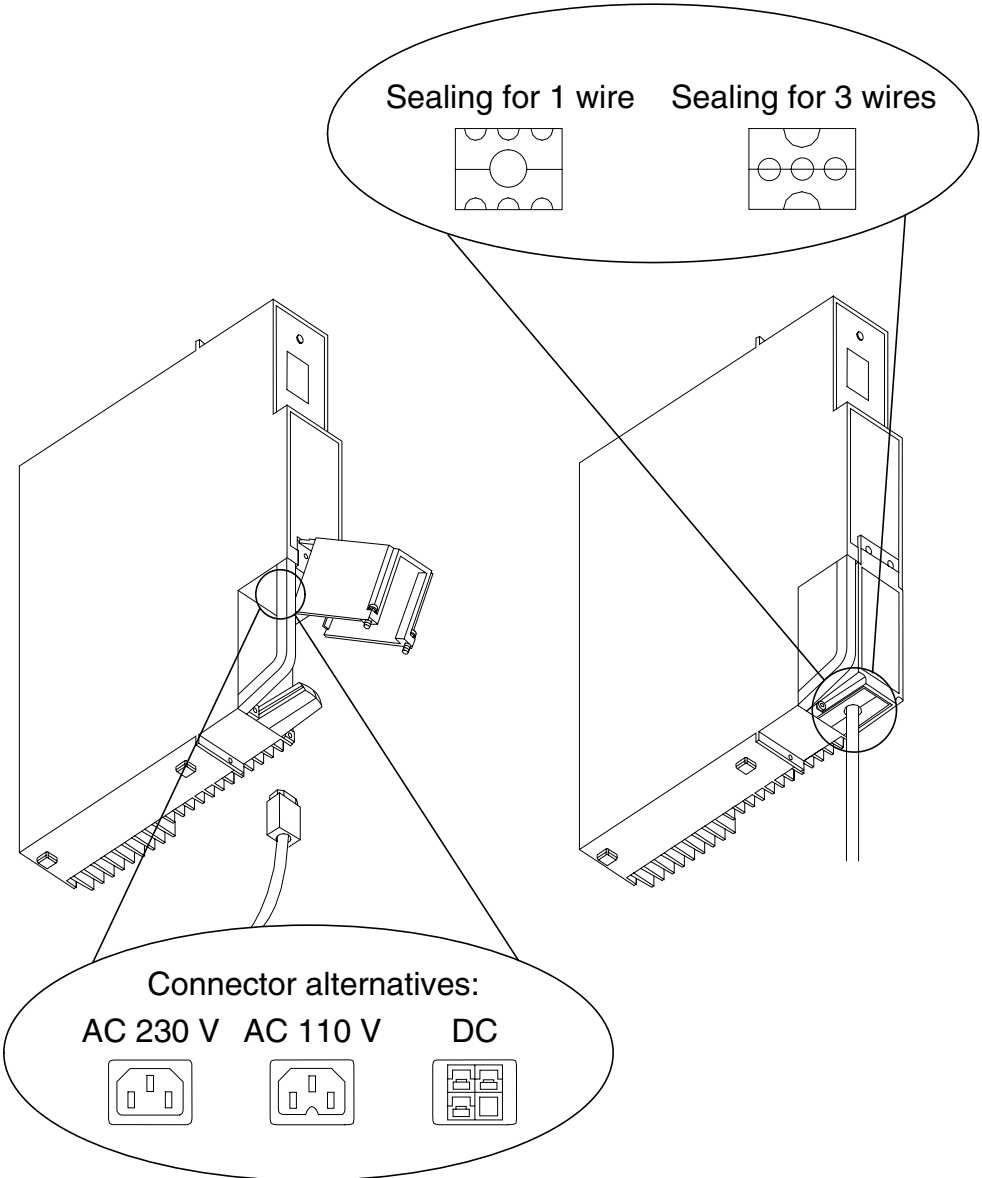

Figure 19. Power supply unit and power connector alternatives
2. Open the connector shield by loosening the retaining screws with a torque driver and a T10 Torx bit (see Figure 19).
DC power can be fed in with three separate conductors. In this case, reverse the rubber sealing piece so that the three small recesses are facing each other and form three small holes (see Figure 19). Use the three holes for routing the conductor cables.